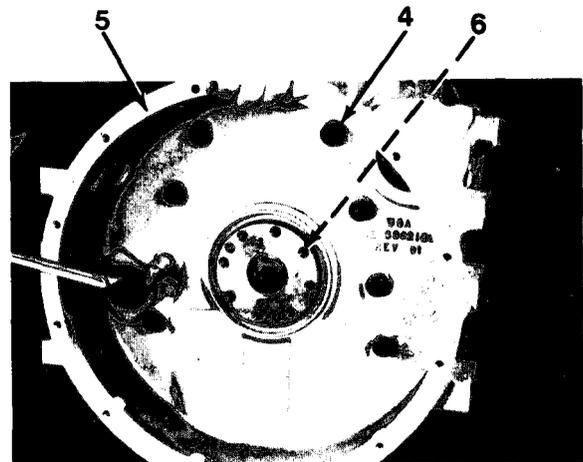

Figure 6-2
4. Using a 15 mm socket, remove eight capscrews (4), flywheel housing (5) and O-ring (6, Figure 6-2).
1. Install O-ring (6), flywheel housing (5) and eight capscrews (4, Figure 6-2).